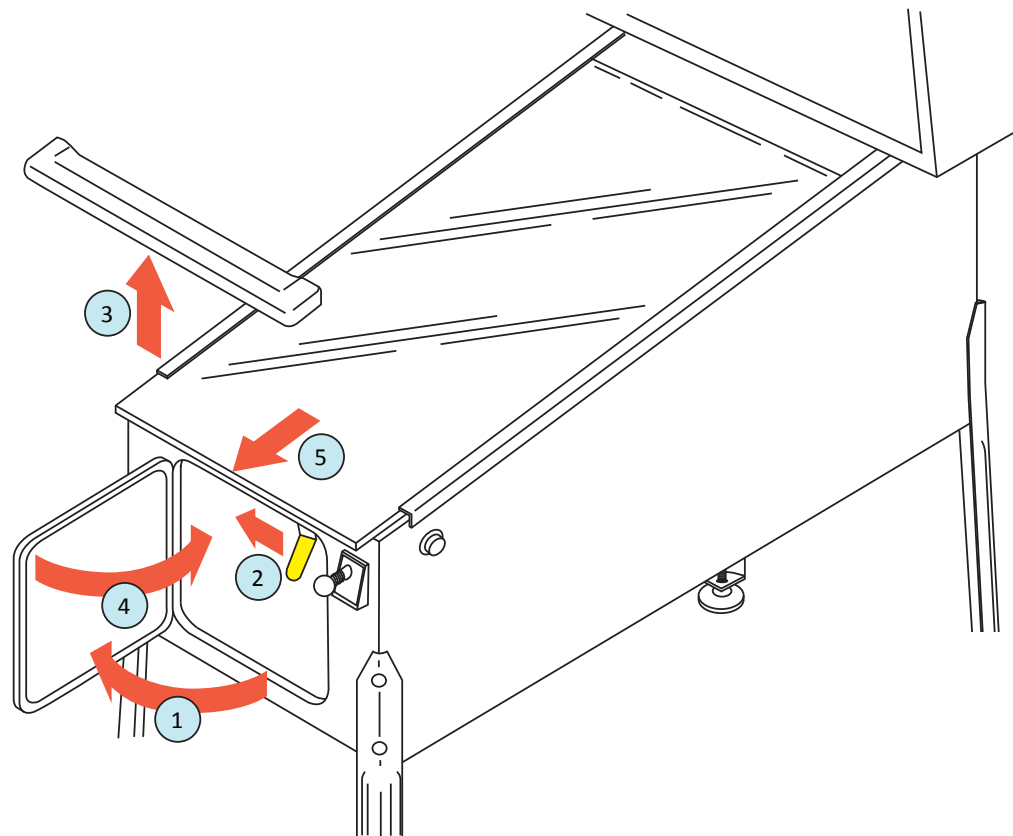

Figure A10. Removing the playfield glass.
11) You will find the coin door keys attached to the ball shooter, on the front of the game. Cut them loose with a pair of wire cutters. Remove the playfield glass: 1) open the coin door, 2) slide the yellow lockdown bar lever to the left, 3) lift the lockdown bar straight up and out, 4) **CLOSE AND LOCK THE COIN DOOR** (to prevent scratching of playfield glass), then 5) slide the playfield glass off of the front of the cabinet (see figure A10). Carefully set the glass aside.